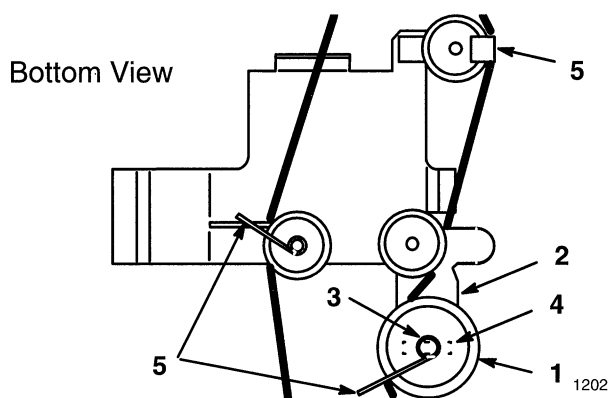

**Figure 28**
2. As the drive belt wears, and the tiller is raised and lowered, the spring loaded idler arm moves.(Fig. 28).